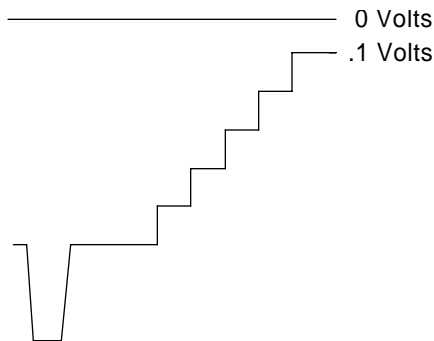

Figure 5-1. Waveform at TP2.
for a blanking level of -0.8 VDC. The waveform in Figure 5-1 should be observed at this point. Move jumper W2 on J4 to the clamp enable position. Adjust pot R152, depth of modulation, for a blanking level of -0.8 VDC.
**Note: The waveform in Figure 5-1 represents the theoretical level for proper modulation depth. Step 9 below describes how to set the modulation depth through the use of a television demodulator or a zero-spanned spectrum analyzer tuned to the visual IF frequency.**